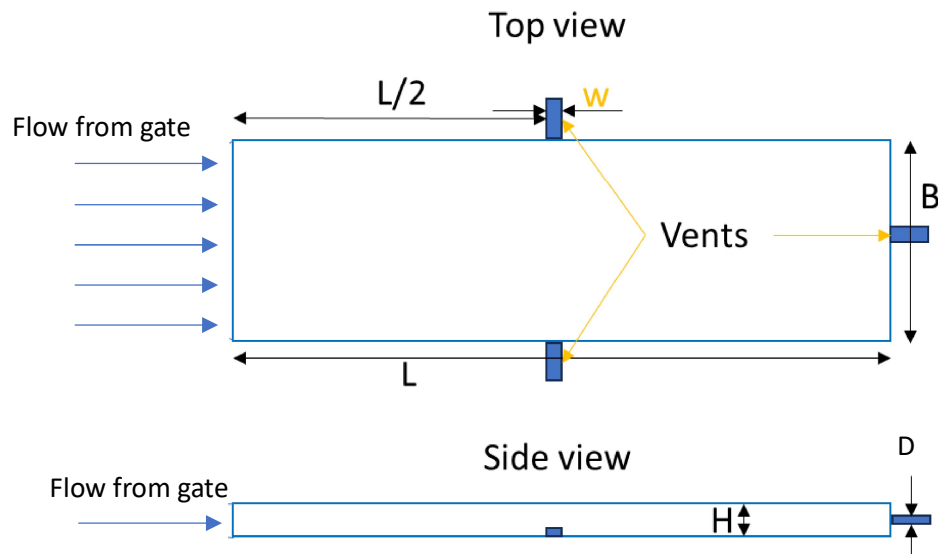

Figure 2: Schematic showing the model setup.
Assume a rectangular plate mold with dimensions $L \times B \times H$ (in mm), featuring a single inlet point (known as gate) positioned on one side. The mold is equipped with three vents located at specific points as illustrated in Figure 2. Each vent has a cross-sectional size of $W \times D$, where W represents the width, and D indicates the depth of the vent. All three vents are of the same size. The vent depth is empirically predetermined based on the polymer resin being used. Since the depth is predetermined, calculate the minimum width required (W) in mm once you calculate the cross-sectional area A . Assume that the polymer flow front is uniform along the cross-section and is moving with a constant velocity. All the required information is mentioned in the Appendix. Make suitable assumptions if something is not available in Appendix and state the assumptions clearly.